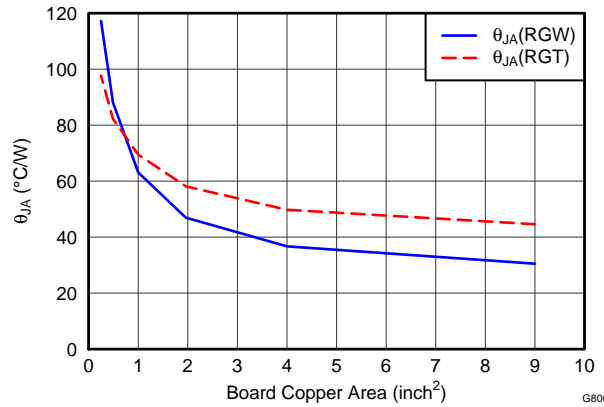

Figure 41. θ_{JA} vs Board Size
Knowing the maximum $R_{\theta JA}$, the minimum amount of PCB copper area needed for appropriate heatsinking can be estimated using Figure 41.
- Added RGT package to Figure 41 19